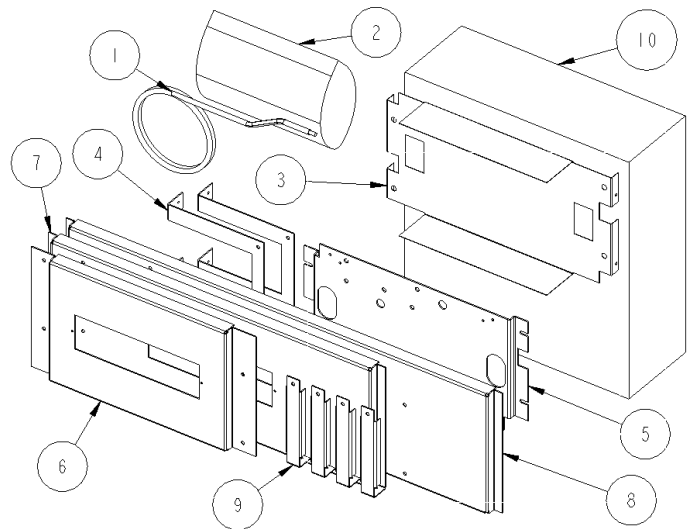
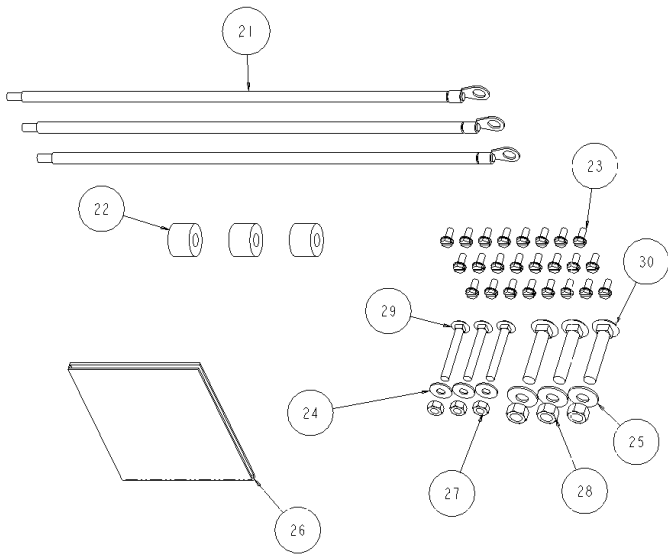

Figure 1. Typical TVSS kit contents.
Figure 2. Hardware included in [2].
- 1. Confirm the contents of the kit.** Figure 1 illustrates the contents of the kit, with the parts listed in Table 2. Figure 2 illustrates the hardware included in the kit ([2] in Table 2), with the parts listed in Table 3.